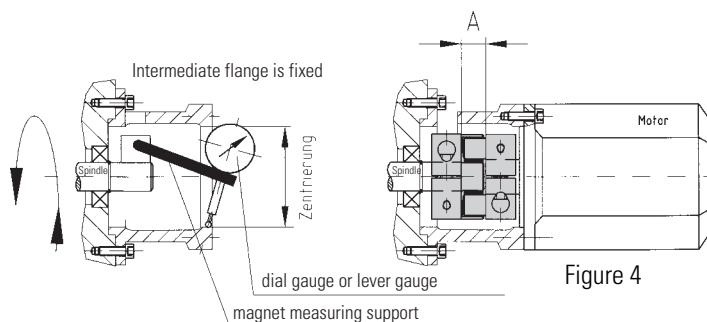

Figure 4
Pull the coupling halves apart and remove the axial fastening screws (E). Threaded holes have been machined into the hub to accept the fastening screws which will now be used to push off the tapered ring (figure 4). **CAUTION:** Prior to re-assembly make sure the fastening screws are in the proper holes to draw in the taper ring.
Lateral misalignment has a negative effect on the service life to the elastomer. Exact alignment of the coupling considerably increases the service life of the elastomer. By reducing or eliminating lateral misalignment the radial loading of the adjacent bearings is eliminated increasing service life and reducing heat. For drives running at high speed we recommend aligning the R+W coupling with a dial indicator (figure 4 & 5).